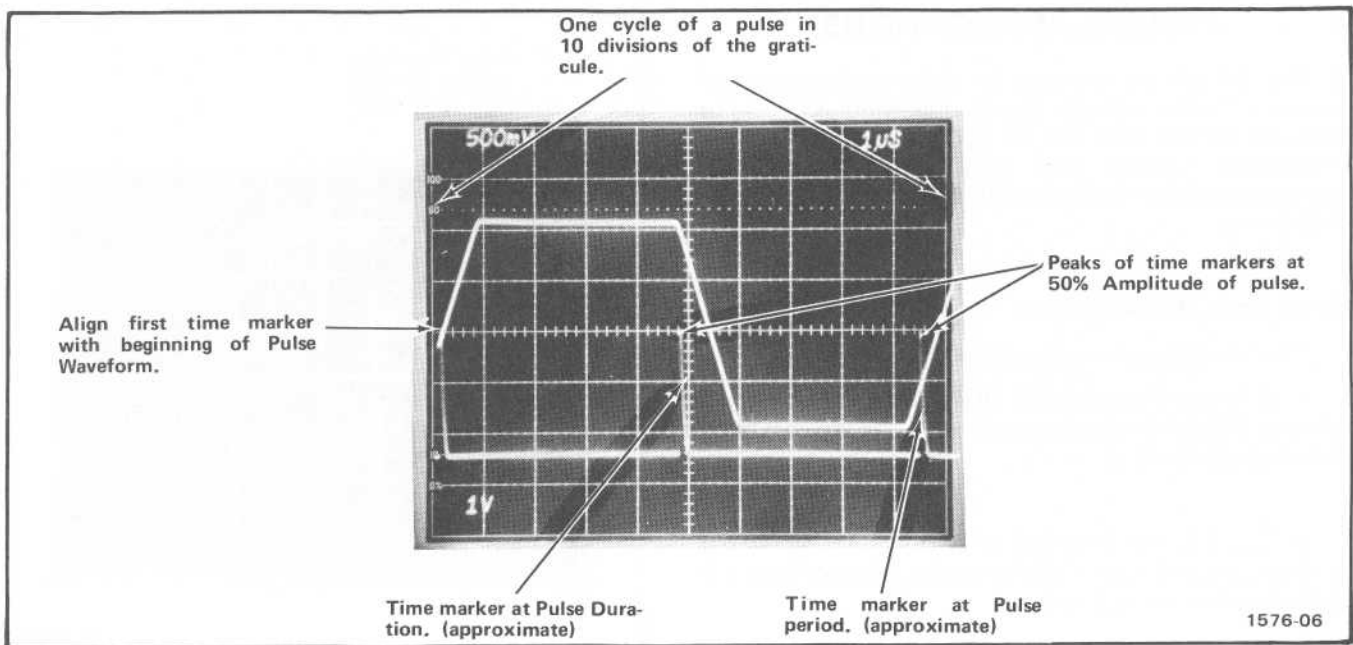

Fig. 2-5. Markers approximately at pulse duration and period.
4. Set the time/div switch to display 1 cycle of a pulse in 10 divisions of the graticule, as indicated in Fig. 2-5.
5. Use the MARKER Control switch of the TG 501 to display one time marker approximately at pulse duration and one at pulse period. Align the first time marker with the beginning of pulse wave-form. See Fig. 2-5.
7. Use the Vertical Position control of the oscilloscope to set the peaks of the time markers at 50% amplitude of the pulse shown in Fig. 2-5.